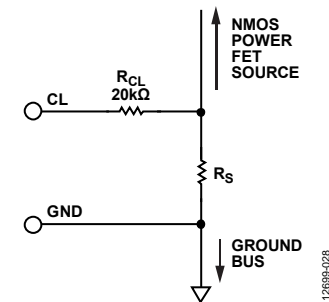

Figure 32. Recommended  $R_S$  Kelvin Ground Connection
- From the ground connection shown in Figure 32, connect the following: